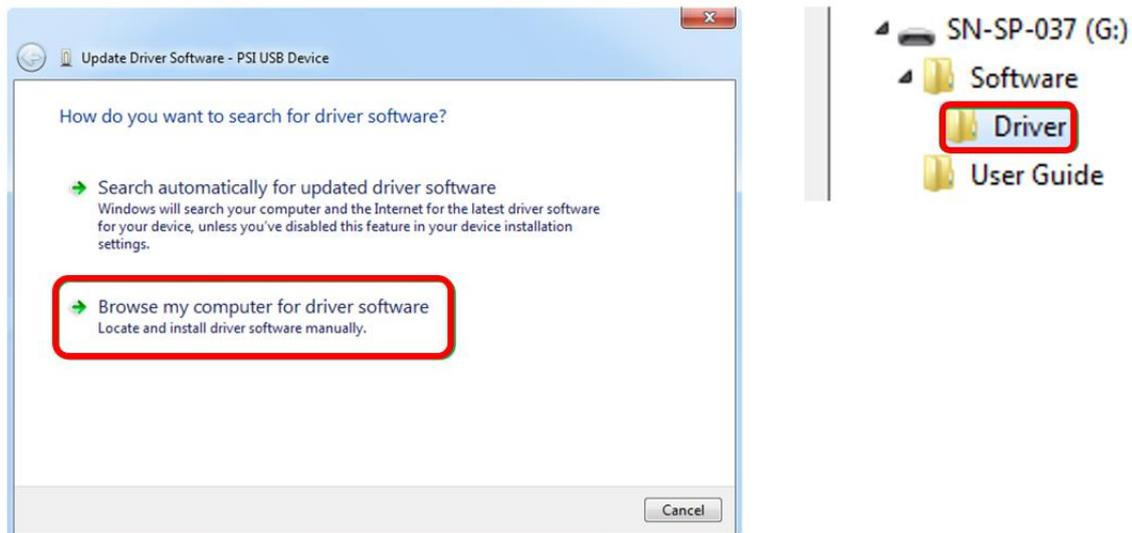

Fig. 16 Choose the driver from the USB disc.
- Click Browse my computer for driver software and select Driver folder on the PolyPen installation disk. Allow the installation even if the warning message appears (Fig. 16).